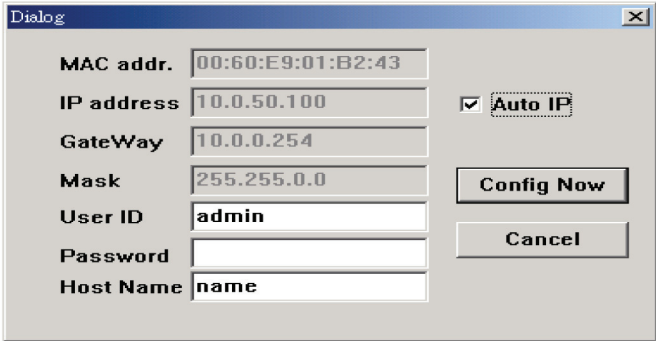

Figure 4-3. SerialManager auto IP dialog window.
4. Check "DHCP (Obtain an IP automatically)" (Figure 4-3).